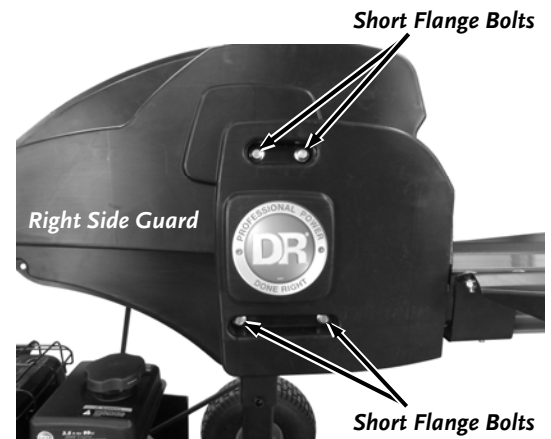

Figure 40
3. Remove the four short Flange Bolts and Locknuts that secure the right side Guard to the Frame using a 9/16" Socket and Ratchet to remove the right side Guard from the Splitter (**Figure 40**).